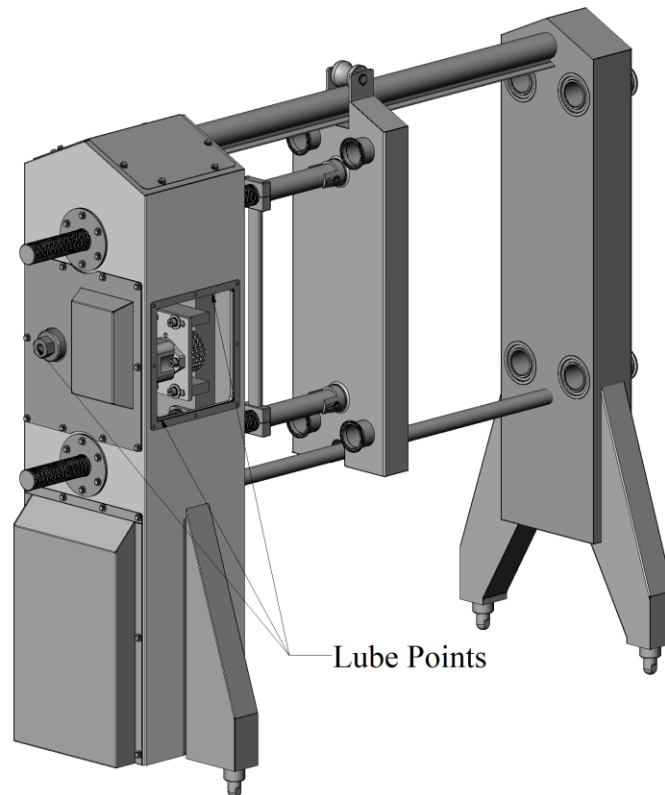

Figure 10
A good preventative maintenance schedule will minimize or eliminate major mechanical problems. Operating the press regularly will help to keep the mechanical components in good working order. The press has three (3) lube points (figure 10) that should be lubed monthly.
6. Locate grease fittings as shown in figure 10. Using food grade grease, lube the three points liberally.